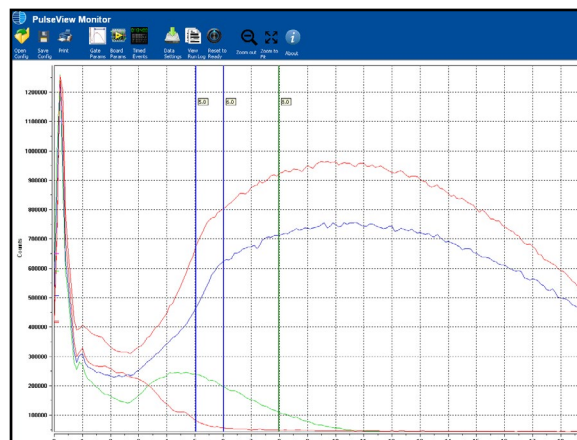

Figure 6.2. Tick-Tock Mode and Stable Florescence
11. For a 2-mm combustor, the sulfur emission should extend all the way to 24 msec (as shown in Figure 6.2) For a 3-mm combustor the emission may be shorter, extending only to 20 msec. For either combustor, H₂:Air 1 ration should be adjusted so that the sulfur emission extends as far as possible.
13. When the optimal gas setting is attained, verify the PFPD is close to tick-tock mode by closing the fine adjust needle valve (clockwise) until the PFPD just goes into tick-tock mode (Figure 6.2). In tick-tock mode, only every second flame propagates through the combustor. In PulseView Monitor, observe a sulfur emission only every second pulse. Chromatograms obtained during tick-tock mode contain significantly higher noise. Therefore, once tick-tock mode is obtained, open the fine-adjust needle valve until tick-tock stops. Open an additional 1/2-1 full turn.
6. When the optimal gas setting is attained, verify the PFPD is close to tick-tock mode by closing the fine adjust needle valve (clockwise) until the PFPD just goes into tick-tock mode (Figure 6.2). Open the fine adjust needle valve until tick-tock stops, then open an additional 1/2-1 full turn.